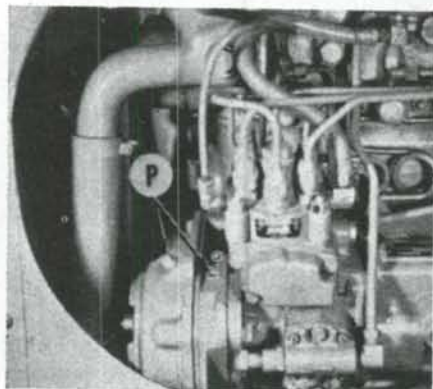
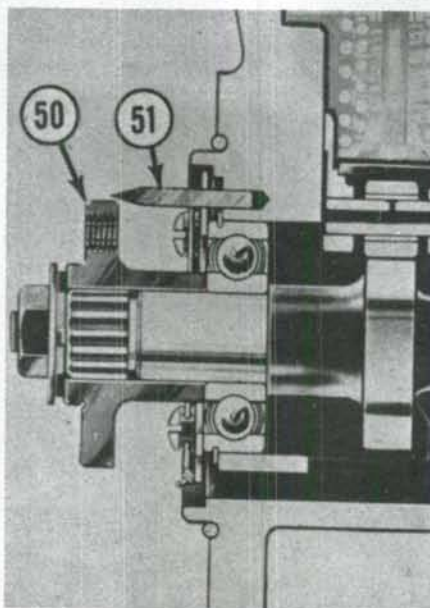
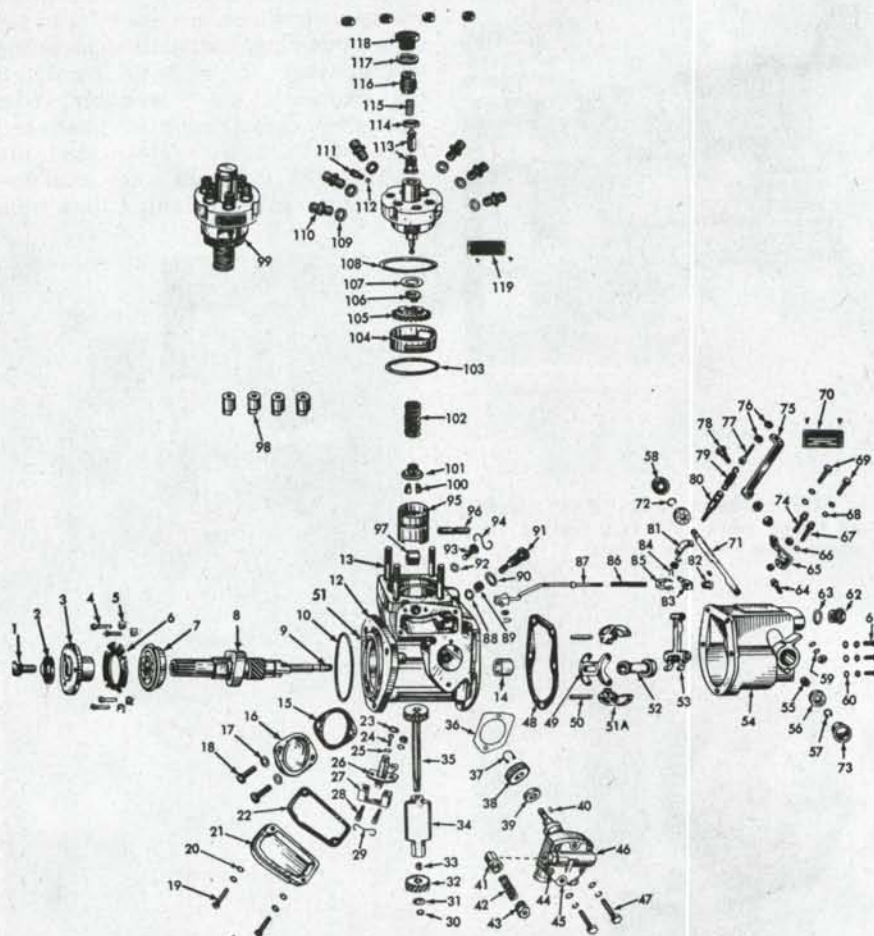

Fig. AC63—To view the Bosch model PSB injection pump timing marks, it is necessary to remove plugs (P).
Fig. AC63A—Bosch model PSB injection pump timing mark (50) is a line on edge of pump drive hub. The pointer is shown at (51).
Fig. AC64A — Partially exploded view of Bosch model PSB injection pump.
Crank the engine until No. 1 piston is coming up on compression stroke and the engine flywheel mark "FPI" is in the exact center of the timing hole. Remove plugs (P—Fig. AC63) so that the pump timing marks can be seen. If the pump timing is correct, the line mark (50—Fig. AC63A) on the drive gear hub will be in register with the pointer (51) extending from the front face of the pump. If the timing marks are not in register, remove the cover from front of the
hydraulic head. Remove the timing window cover (21—Fig. AC64A) and crank engine until the line mark on the apex of one of the teeth on the pump plunger drive gear is in register with the "O" mark or arrow stamped on the lower face of the timing window hole as shown in Fig. AC64B. Remove the two screws and carefully withdraw the control assembly, being careful not to lose plunger sleeve pin (24—Fig. AC64A). Unscrew and remove lube oil filter (91). Remove the hydraulic head retaining stud nuts and carefully withdraw the hydraulic head assembly from the pump housing. Do not use force when attempting to withdraw the hydraulic head. If difficulty is encountered, check to make certain that the plunger drive gear is properly positioned as shown in Fig. AC64B.
in Fig. AC64B and that open tooth on quill shaft gear is in register with punch mark in pump housing as shown at (A) in Fig. AC65. When installing the control sleeve assembly, the plunger sleeve pin (24—Fig. AC64A) must be lined up with the slot in the control block. The remainder of the reassembly procedure is evident.
152A. To install the injection pump, first make certain that the flywheel mark "FPI" is in the exact center of the timing hole when No. 1 piston is coming up on compression stroke. Loosen the three pump drive gear retaining cap screws. Remove the timing window cover (21—Fig. AC64A) from side of pump housing. Turn the pump hub until the line mark on the apex of one of the pump plunger drive gear teeth is approximately in the center of the timing window. Then, continue turning the hub until the line mark (50—Fig. AC63A) on the drive gear hub is in register with the pointer (51) extending from the front face of the pump. Mount the injection pump on the engine. The pump drive gear should be meshed with the camshaft gear so that the three drive gear retaining cap screws are approximately in the center of the elongated drive gear holes when the
153B. The low idle speed of the engine is controlled by the position of the throttle lever and is adjusted by placing the throttle in the idle position and adjusting the idle stop screw (74—Fig. AC64A) to give 600-650 rpm at low idle.